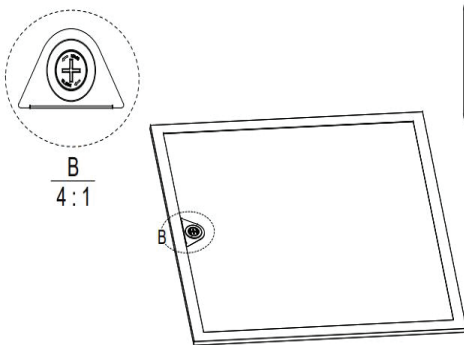

Figure 6
Step 1. Follow the instructions on the plug and rotate the plug by hand. (Figure 6)